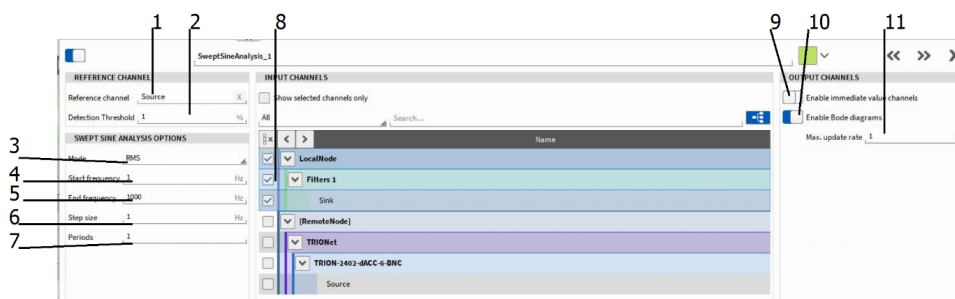

Fig. 7.136: Swept Sine Analysis setup – overview
- *ChannelName\_iRMS* or *ChannelName\_iPeak*: Time domain channel; Contains the amplitude (RMS or Zero-to-Peak level depending on the selection in ③ in Fig. 7.136) of the signal at the actual frequency; The amplitude is only referring to the fundamental frequency signal components; Can be assigned to a Recorder (see *Recorder*), Digital Meter (see *Digital meter*) or similar.
- *ChannelName\_iUFRMS* or *ChannelName\_iUFPeak*: Time domain channel; Contains the amplitude (RMS or Zero-to-Peak level depending on the selection in ③ in Fig. 7.136) of the signal at
- *ChannelName\_RMS* or *ChannelName\_Peak*: Frequency domain channel; Contains the transfer function (RMS or Zero-to-Peak level depending on the selection in ③ in Fig. 7.136); The amplitude is referring to the fundamental frequency signal components; Can be assigned to a Spectrum Analyzer (see Spectrum analyzer) instrument for displaying the data.
- *ChannelName\_UFRMS* or *ChannelName\_UFPeak*: Frequency domain channel; Contains the transfer function (RMS or Zero-to-Peak level depending on the selection in ③ in Fig. 7.136); The amplitude is referring to the entire signal components; Can be assigned to a Spectrum Analyzer (see Spectrum analyzer) instrument for displaying the data.